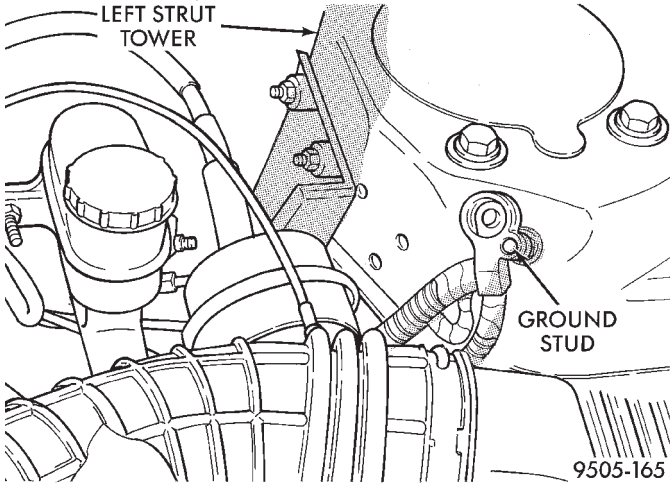

Fig. 102 Correctly Isolated Remote Ground Cable
(2) Correctly isolate remote ground cable when servicing vehicle by installing the ground cable insulator on the strut tower ground stud as shown (Fig. 102). **This will prevent accidental grounding of the remote ground cable.**